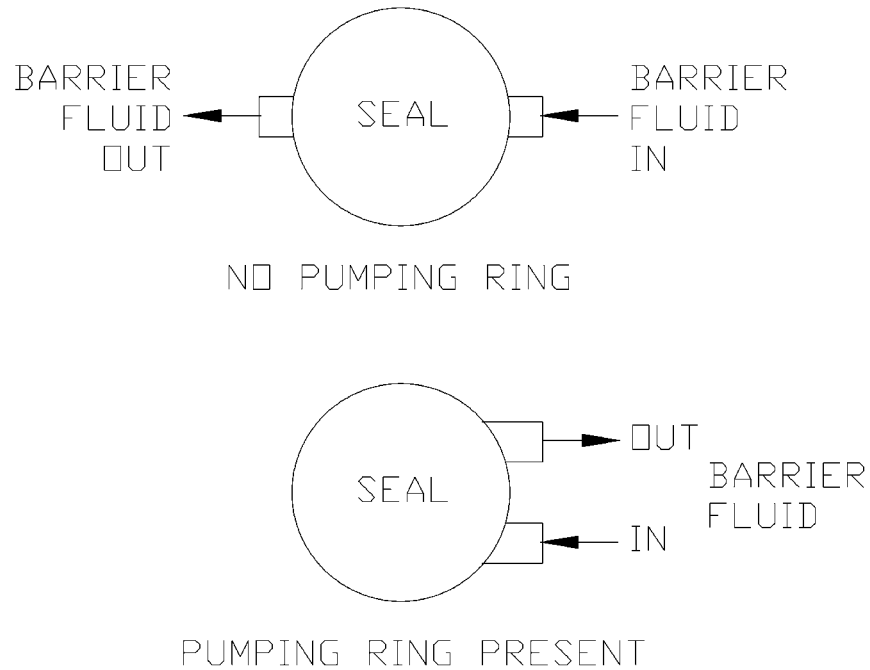

Figure 9. Identifying presence of pumping ring for barrier fluid
12. The **MRN** seal may be equipped with a pumping device to circulate the barrier fluid (refer Figure 9). Whenever such a pumping device (usually a pumping ring) is present: